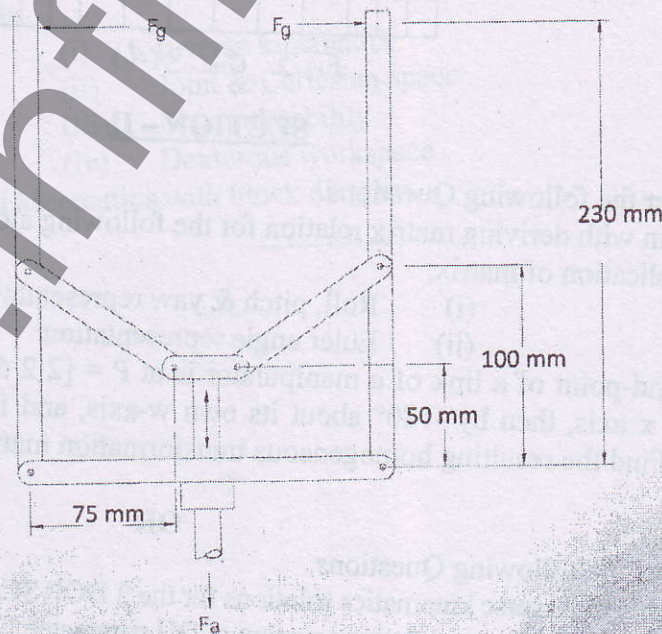

Fig. 1 Que. 2 (c) Mechanical Gripper
- (c) Figure 1. show mechanism of mechanical gripper calculate the gripper force  $F_a$  for  $F_g = 30 \text{ N}$ .